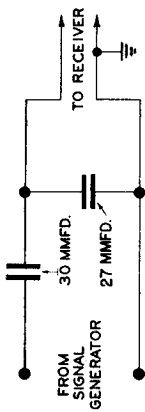

Fig. 9. Dummy Antenna
- 3—Connect signal generator leads through dummy antenna, as shown in Figure 9, to antenna receptacle on the receiver.
Fig. 9 shows the schematic of a recommended dummy antenna, closely resembling actual antenna capacity, to be used in series with signal generator leads when aligning the R.F. section of the receiver.
- 1—Connect signal generator leads through dummy, illustrated in Fig. 9, to antenna lead in socket on receiver.